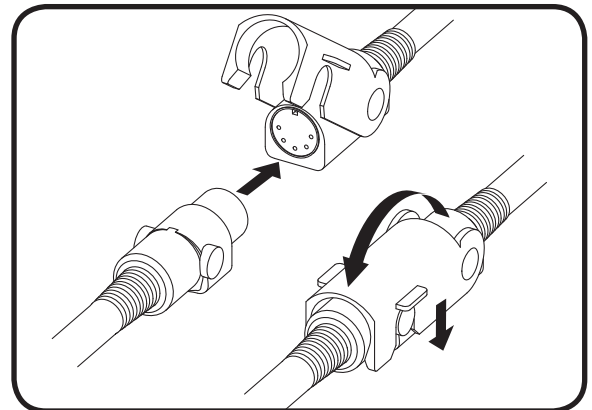

Figure 3.5 Quick-release Connector
**Hand Control:** Contains the controls needed to operate the various functions of the riser recliner. Refer to V. “Operation” for more information. The hand control may be equipped with a quick-release connector (**Fig. 3.5**), which enables the user to detach the hand control from the riser recliner, disabling all functions of the hand control.